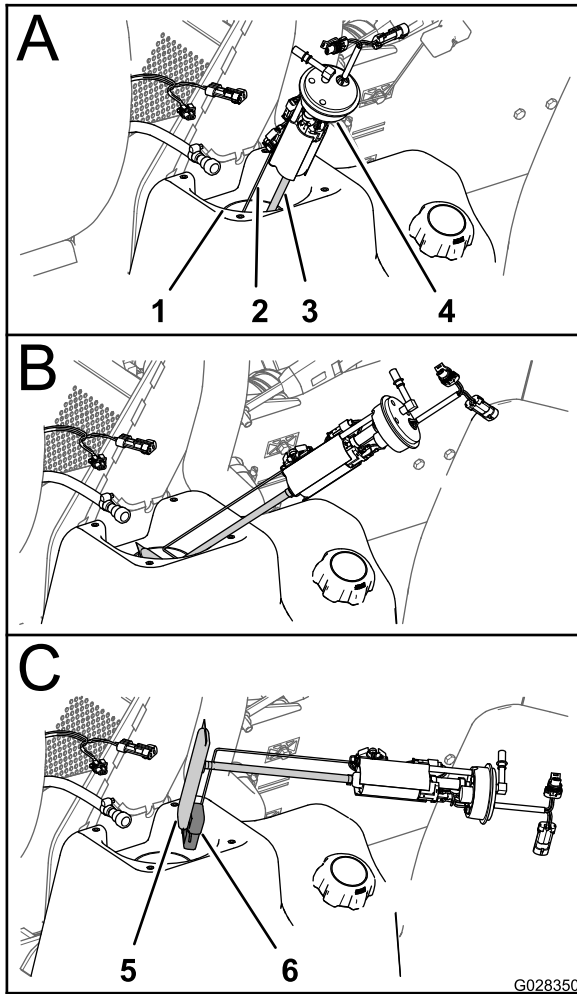
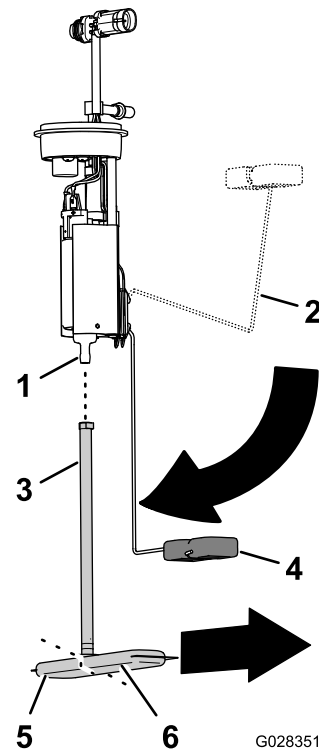

Figure 62
Figure 63
6. Carefully lift and rotate the fuel pump/sending unit out of the neck of the fuel tank (Figure 62).
1. Remove the pickup tube of the fuel filter from the fitting of the fuel pump (Figure 63).
2. Align the pickup tube of the new fuel filter with the fitting of the fuel pump (Figure 63).
3. Align the long leg of the fuel filter with float when the float arm is in the empty position (Figure 63).
4. Insert the fuel-pump fitting into the pickup tube until the fitting is fully seated (Figure 63).
1. Support the float arm and pickup tube together and slip the float and fuel filter into the opening in the fuel tank (Figure 62).
2. Seat the fuel pump/sending unit into the opening in the tank (Figure 62 and Figure 63).
3. Install the seal and nut over the fuel pump/sending and onto the neck of the fuel tank and tighten the nut hand tight (Figure 62).
4. Connect the coupling on the fuel hose to the fitting of the fuel pump (Figure 62).
5. Connect the 2-socket connector of the machine-wiring harness to the 2-pin connector of the fuel pump/sending unit; Connect the 2-pin connector of the machine-wiring harness to the 2-socket connector of the fuel pump/sending unit (Figure 62).